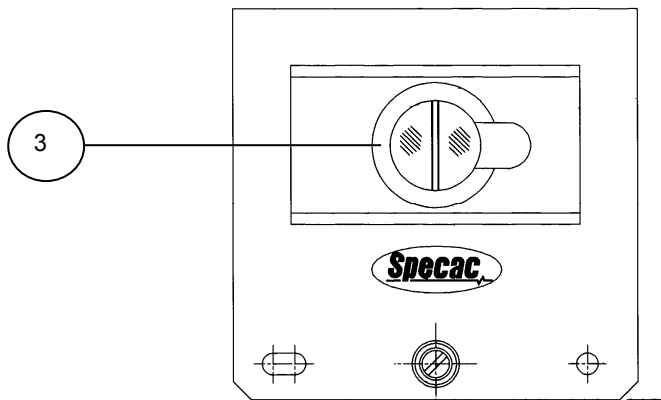

Figure 2: Top View of 30° Specular Reflectance Accessory
Before collecting any sample spectra a background spectrum is required. The reference mirror is used to obtain a background spectrum by placing it reflecting side down over the aperture (3), see figure 2. One of the aperture mask rings (5 mm or 10 mm aperture) can be put in position prior to placing the reference mirror, if required.